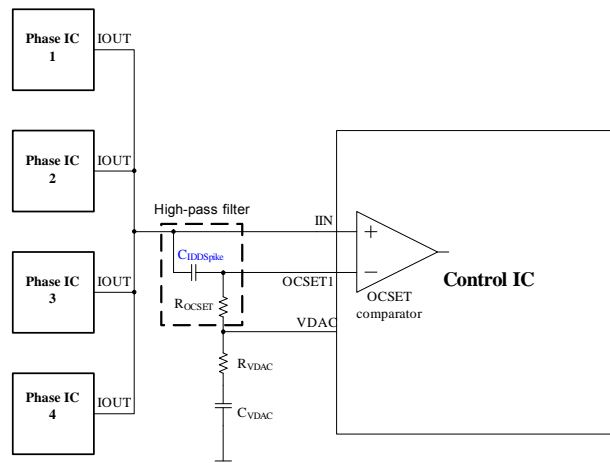

Figure 19 C_{IDD_Spike} and R_{OCSET} form a High Pass Filter
The IDD_Spike over current threshold can be implemented by incorporation a properly sized capacitor between the OCSET (18) and the IN1 (21) pins (see Figure 19).